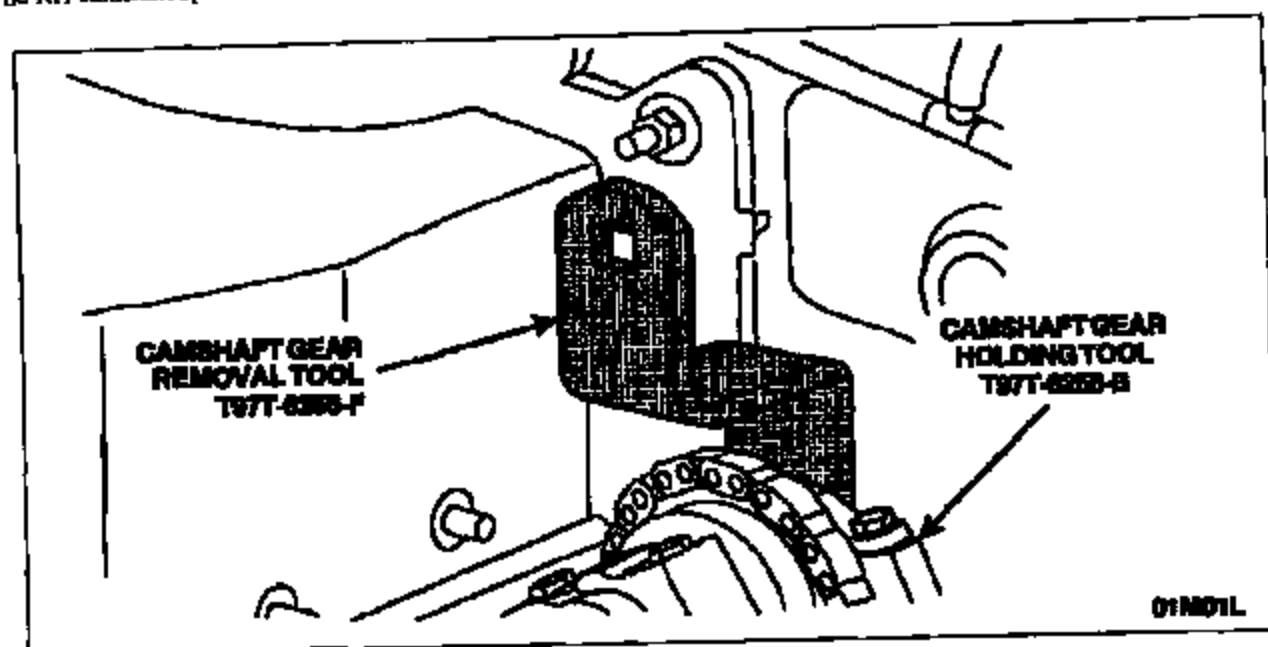

FIGURE 11
If Camshaft Gear Removal Tool T97T-6256-F is being used with the torque wrench, keep the torque wrench IN-LINE with the tool and tighten the camshaft sprocket to 61 Nm (45 lb-ft). (This tool will amplify the torque). Otherwise, tighten the camshaft sprocket to 85 Nm (63 lb-ft). See Figure 11.
19. Tighten the top two clamp bolts on Camshaft Gear Holding Tool T97T-6256-B to 10 Nm (89 lb-in) and then tighten the camshaft sprocket bolt to 85 Nm (63 lb-ft). See Figure 11.